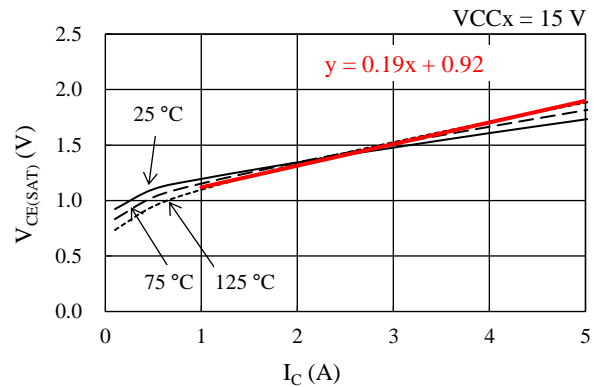

Figure 14-1. Linear Approximate Equation of VCE(SAT) vs. IC
Steady-state loss in an IGBT can be computed by using the VCE(SAT) vs. IC curves, listed in Section 15.3.1. As expressed by the curves in Figure 14-1, a linear approximation at a range the IC is actually used is obtained by: VCE(SAT) = α × IC + β. The values gained by the above calculation are then applied as parameters in Equation (4), below. Hence, the equation to obtain the IGBT steady-state loss, PON, is: